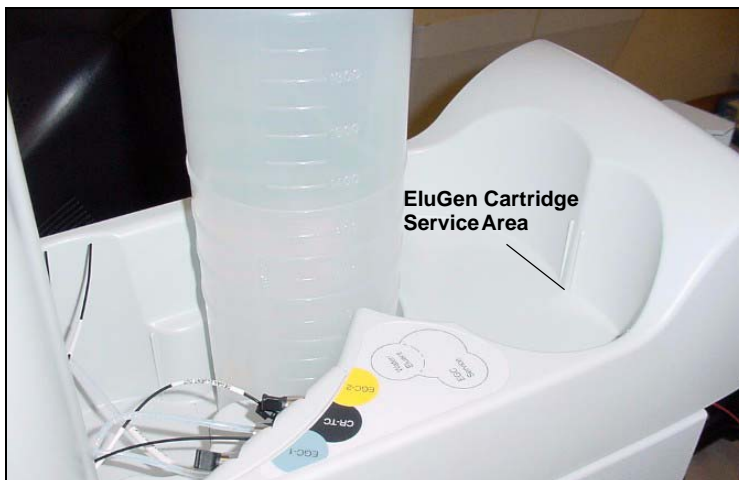

Figure 5-32. EluGen Cartridge Service Area
7. Turn the cartridge upside down and set it in the EluGen cartridge service area on top of the ICS-2000 (see Figure 5-32 and Figure 5-33).